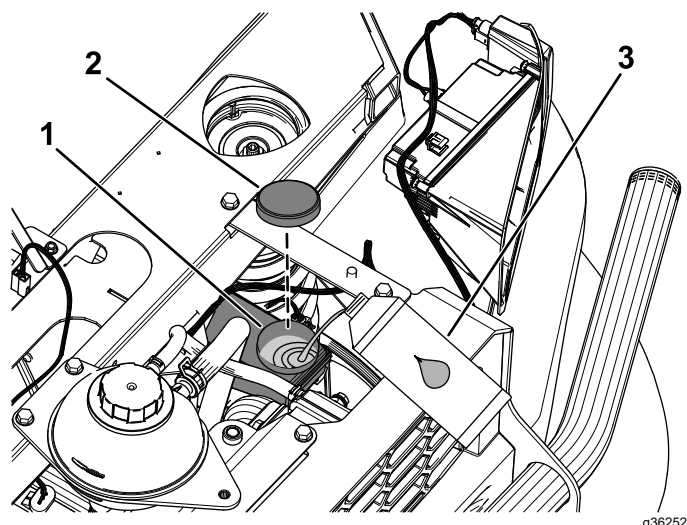

Figure 122
4. Raise the hood to access to the master brake cylinder and reservoir (Figure 122).
- A. Clean the area around the reservoir cap and remove the cap (Figure 122).
- C. Install the reservoir cap (Figure 122).